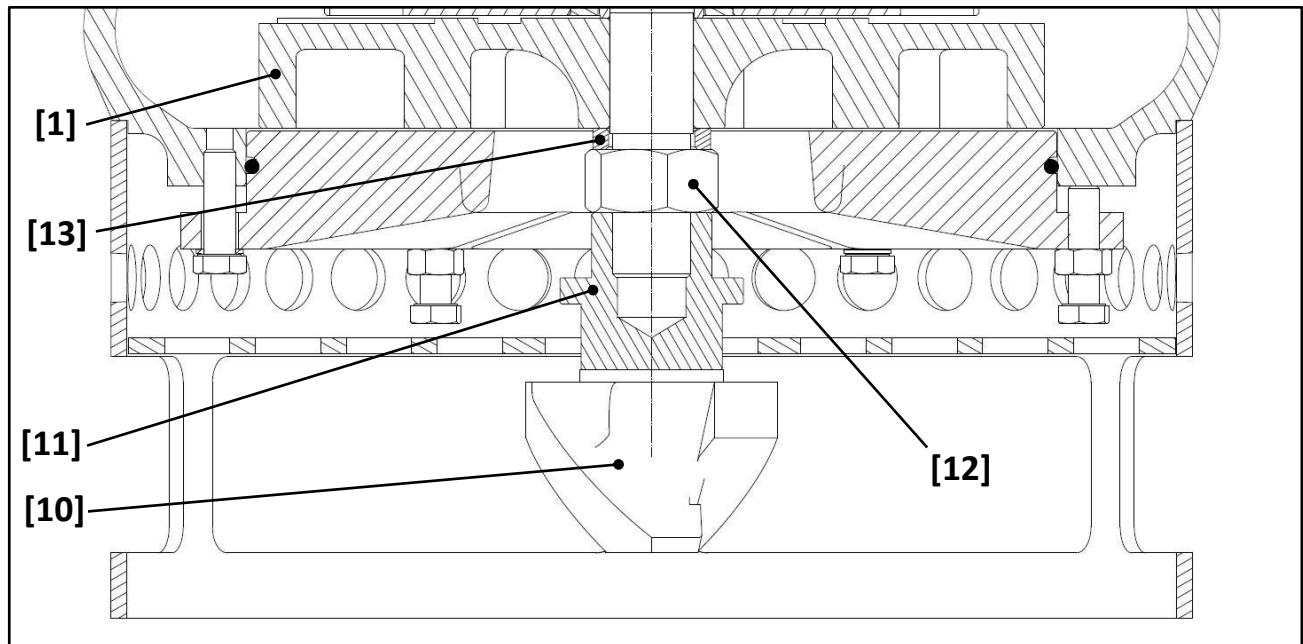

Fig. 6
- check the tightness of the agitator [10] and all the other threaded components of the agitator kit (see **Fig. 6**): in detail, be careful to the full tightening of the connector element [11] and the nut [12] in order to ensure a complete and strong contact between the spacer [13] and the impeller [1] (see **Fig. 6**);